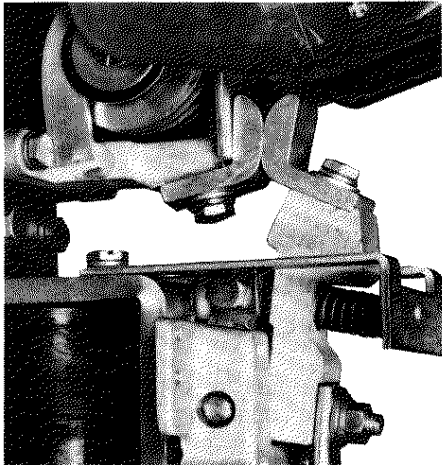

Figure 2
2. Check that the movable contact tip is properly seated against the ridge located on the auxiliary arm (14) (Fig. 2).
3. Check that the stationary contact tip is against the stationary contact support located on the blowout coil assembly (2) (Fig. 2).
4. Check that the contact tip surfaces are aligned both vertically and horizontally (Fig. 2).